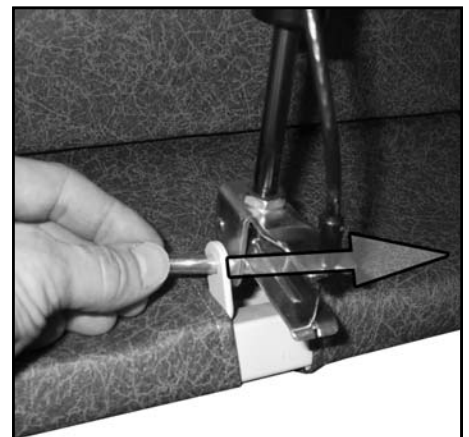

FIG. 3
6. Align Operator holes between the Seat Frame bracket holes on Seat Frame assembly. Install the saved clevis and bow-tie cotter pin through the aligned holes. (FIG. 3)